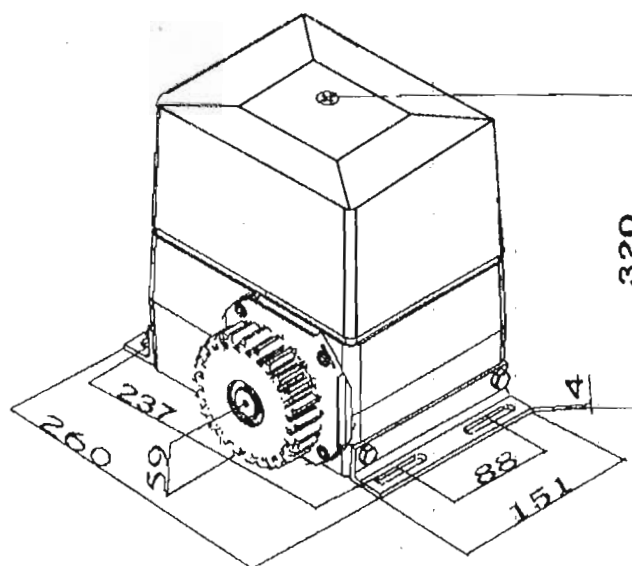

Fig.1
- The device is composed of a single-phase motor, worm and worm gear. The main shaft of the motor rotates the worm with the clutch engaged; the worm rotates the worm gear and output gear, which pushes rack attached to the sliding gate; thus moving the gate. The main size of the figuration can be seen in Fig.1.